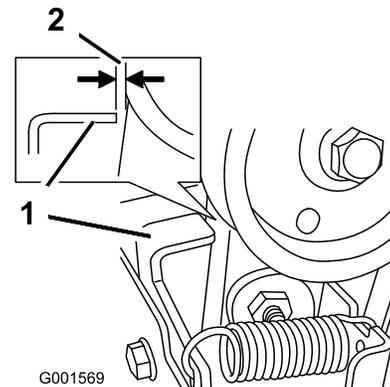

Figure 48
3. With the auger/impeller lever disengaged, ensure that the gap between the auger clutch assembly and the tab is 1.5 mm (1/16 inch) as shown in Figure 48).